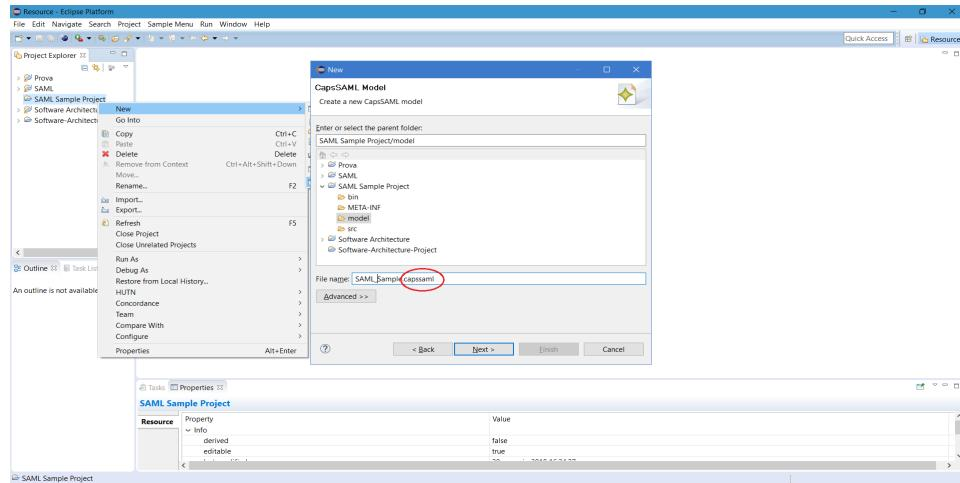

Figure 2.5: Naming the file
- Then, find **CAPSModel** and then **CAPSSaml**. Give a name to your file paying attention to the last part of the name: it must end with **.capsaml** (concerning the folder, select **model** as well) (figure 2.5);